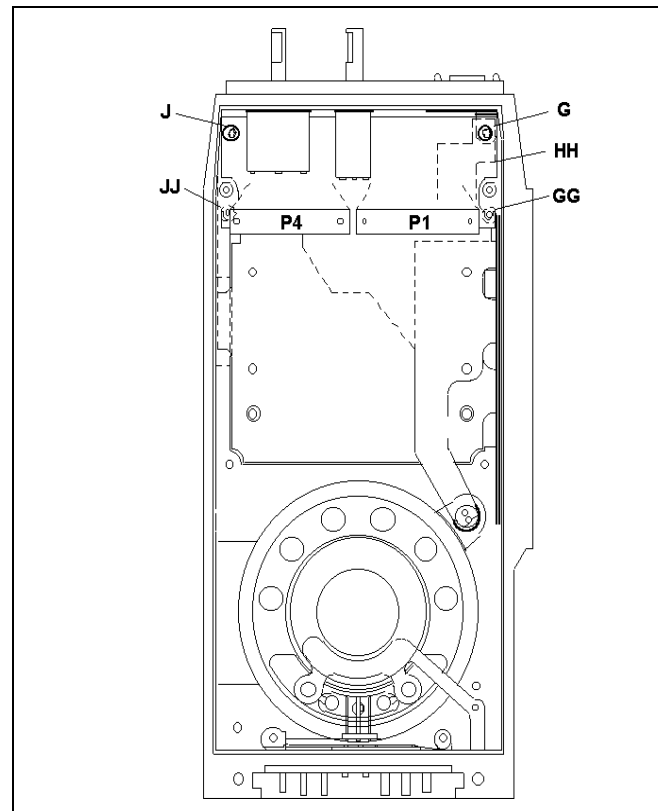

Figure 10 - Keypad Flex and LCD Board Access
To remove the Keypad Flex, first remove the UDC Flex/UDC/Monitor Button/PTT Switch assembly as previously stated. Next remove the knobs using the hex driver. Unscrew the two (2) screws securing the top panel and lift and remove the panel. Lift the Emergency Button Board by carefully unplugging J6 from P6. With a spanner wrench, remove the nuts securing the volume and channel controls and carefully slide the controls inside the radio. Unscrew the two (2) screws (**G** and **GG**) and remove the J10/P10 Zebra strip securing plate (**HH**). See Figure 10. The Keypad Flex is now free for removal.
After the top areas of the Keypad Flex have been freed as previously outlined, the LCD Board can be removed. At this point in the disassembly process an earlier Front Cover Assembly has two (2) screws on the left side as viewed from the back (**J** and **JJ**) and a later assembly has a single screw in the upper left-hand side (**J**). See Figure 10.